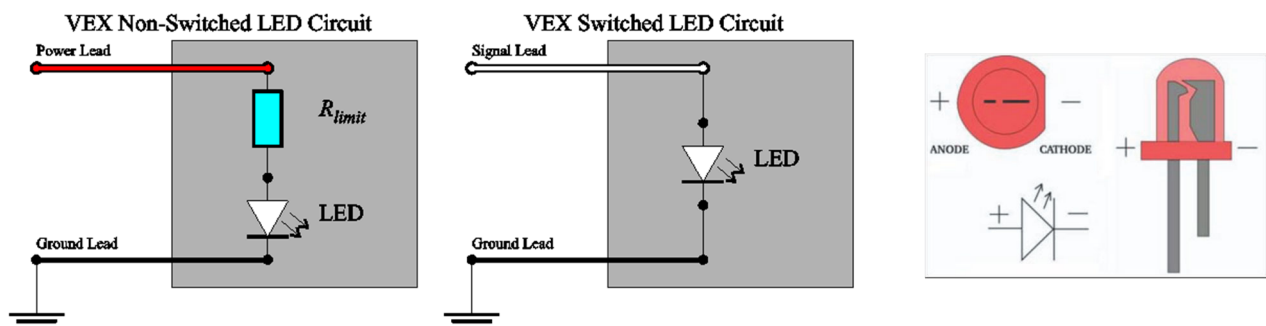

Fig. 2: VEX LED circuits: non-switched LED is always on when VEX controller is operating, and switched LED illumination state is controlled by software.
An LED can be connected to the VEX controller in two ways. If the LED is to be continuously emitting light when the VEX controller is powered, you connect the LED in series with a resistor between the “Power” and “Ground” lines of one of the ports of the VEX controller. The resistor’s value determines the maximum current flowing through the LED, with greater current (created by a smaller series resistance) causing the LED to generate a brighter light. However, an LED has a maximum current that it can manage without damage so a minimum series resistance is needed to protect the LED. If the LED’s state is to be controlled in software, you may connect the LED between the “Signal” and “Ground” line of one of the DIGITAL ports when that port is configured to acts as a digital output port. The VEX controller’s DIGITAL port’s “Signal” lines cannot source (generate) enough current to damage most LEDs so a series resistance is usually not needed in this case. The signal line for a VEX DIGITAL port can only generate a maximum of about 5 mA of current. The circuit diagrams for these two LED configurations are shown in Figure 2.
1. What is the purpose of the biasing resistor, R_{limit} , in the LED circuit of Figure 2? How do you expect the brightness of the LED to change as the value of the resistor R_{limit} is lowered? What are the negative repercussions of using too low a value for the biasing resistor R_{limit} ?